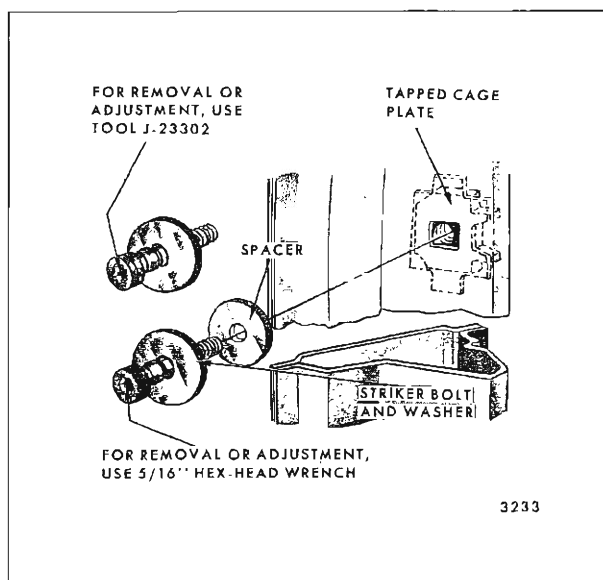

Fig. 6-24—Door Lock Striker Installation
2. Insert a 5/16" wrench into hex-head fitting in head of striker bolt and remove striker (Fig. 6-24). On bodies equipped with a star shaped tool fitting in the head of striker bolt (Fig. 6-24), use tool J-23302.